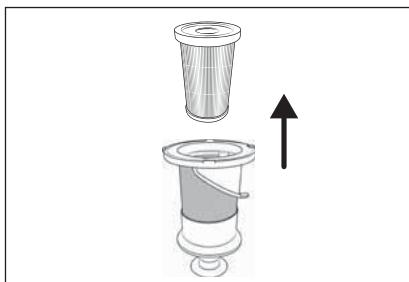

Fig. 24
- 4) Remove the EPA filter 5 from the stainless steel filter 6 by reaching into the opening of the EPA filter 5 and pulling it out of the stainless steel filter 6 (see Fig. 24).